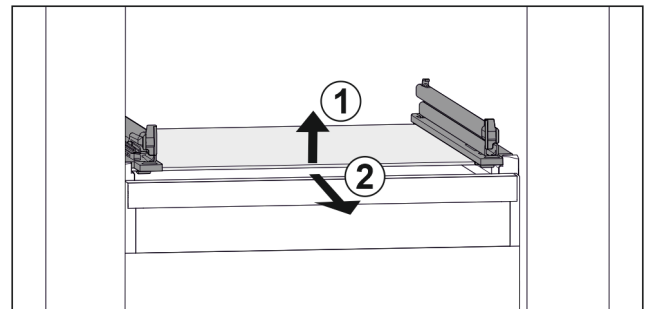

Fig. 97 Example illustration of glass shelf
- ▶ Lift glass shelf at the front. Fig. 97 (1)
- ▶ Take out glass shelf to the front. Fig. 97 (2)